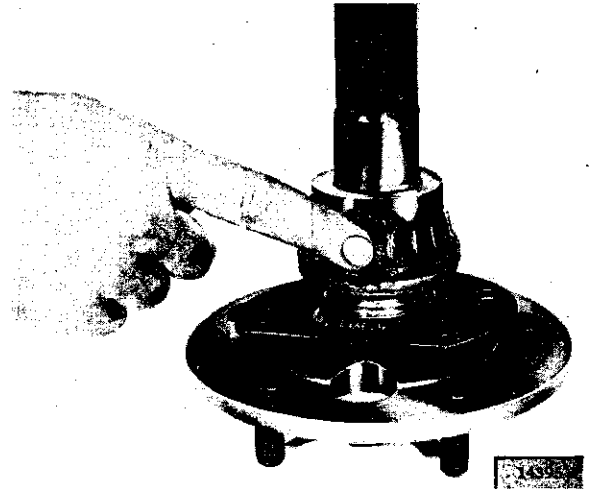

FIG. N-12—APPLYING GREASE TO ROLLERS
- e. Remove tape and apply additional grease to the outside surfaces of the rollers and cage as shown in Fig. N-12.